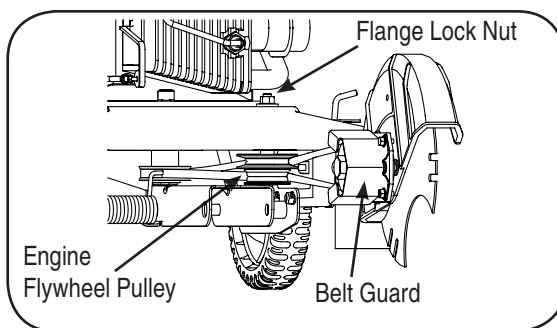

Figure 7
2. With your other hand, carefully reach under the rear of the unit and remove the belt from around the engine flywheel pulley. See Figure 7.